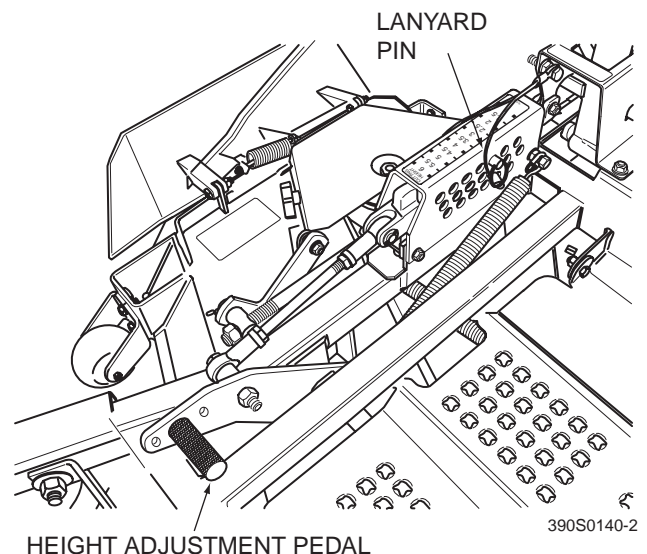
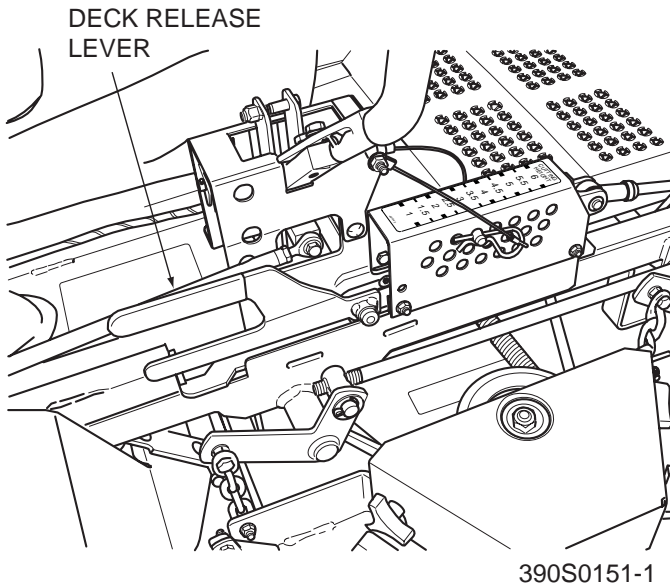

Figure 4-5. Adjusting Cutting Height
Figure 4-6. Deck Release Lever
1. Push the cutting height adjustment foot pedal all the way forward using your right foot until it locks in place. See Figure 4-5.
2. Insert the lanyard pin into the cutting height index at the desired cutting height. Push forward on the deck lift foot lever, hold in place and lift up on the deck release lever. See Figure 4-6. Slowly release the foot pedal. A deck height decal is located on the cutting height index as an aid in adjusting the deck to the desired height. See Figure 4-5.